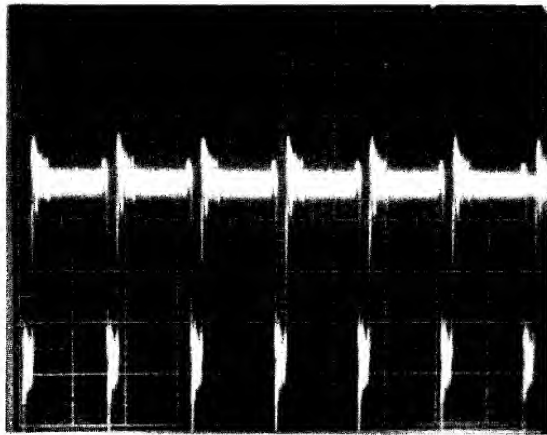

Figure 3.3.4-1 Pin 15
5. If +5V and +12V check good and still the board is dead check pin 15 of the IC 74166 at C4. The pulse should be as in Figure 3.3.4-1. If it is just a high check the clock section out. The clock section test is given in the Appendix.
- 4) Check the Shifter IC 74166 pin 15. The pulse should be as in Figure 3.3.4-1. If this checks good go to Step 7. If this is just a high check the entire clock section out for the conditions listed below.